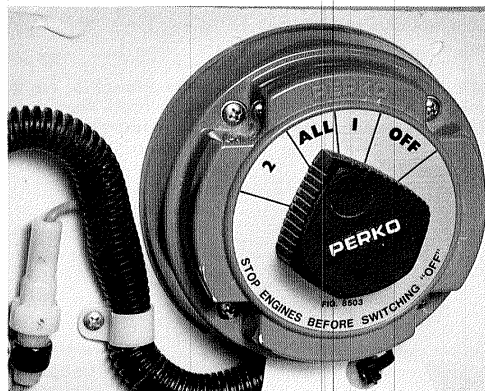

Figure 17
4. Put the battery main switch in the "On" position. See figure 17.